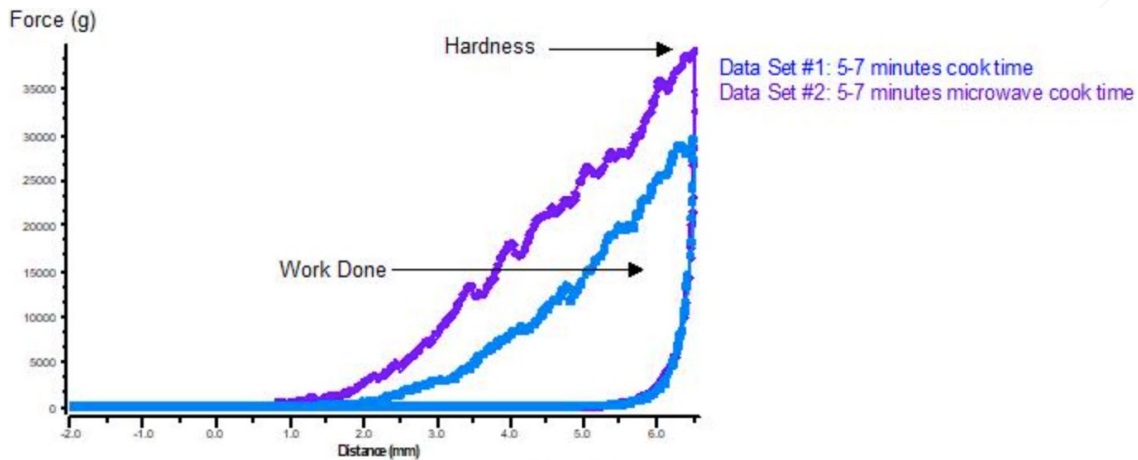

Figure 2
- Figure 2: Force vs. Distance graph reveals the hardness as the plunger compresses the peas over 6.5 mm.